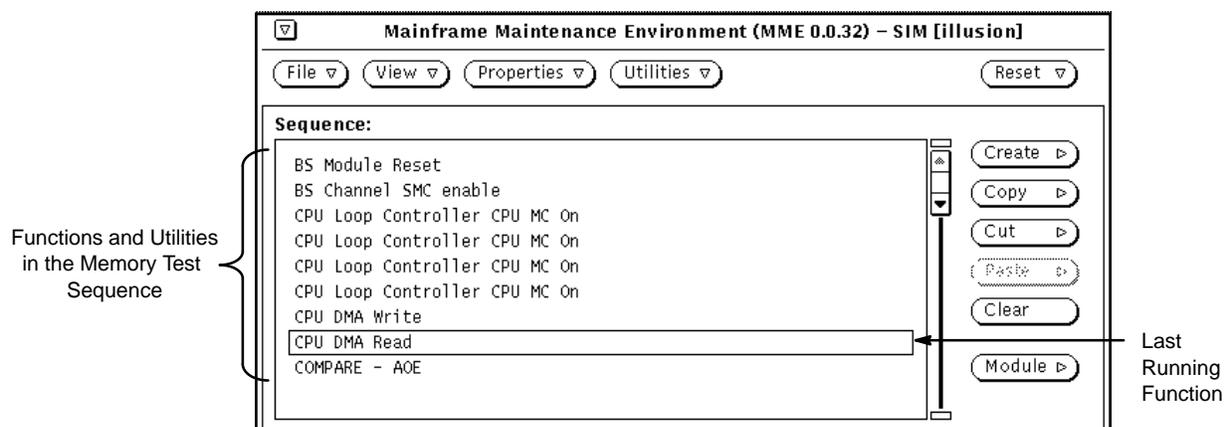

Figure 5. Viewing the Original Sequence
2. Click on Test Mode:  to switch to compose mode. The memory test sequence is shown in the Sequence scroll box; refer to Figure 5. Notice that the last running function is highlighted.